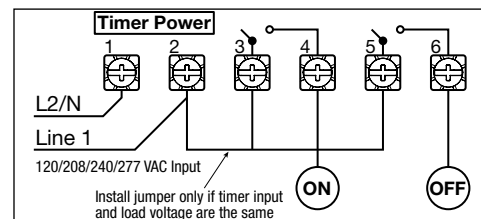
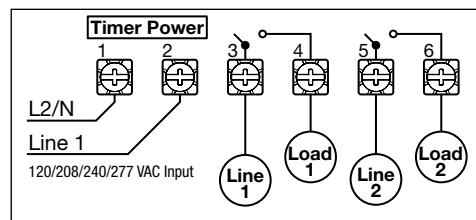

FIG. 5a DT104 configured for pulse SPST load with jumper set to PUL
FIG. 5d DT104 configured for DPST loads with jumper set to SIM
3. Insert wire ends under proper terminals and tighten screws to 10.5 lbf-in. See FIG. 5a through FIG. 5d